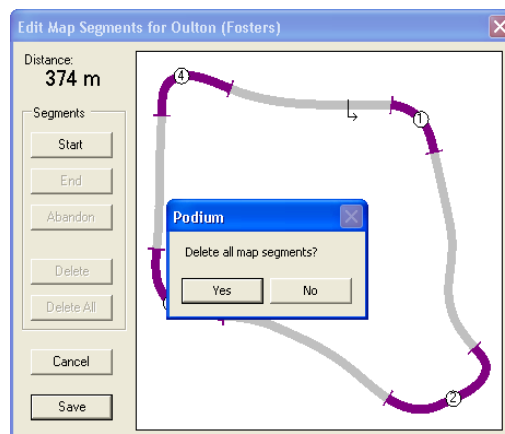

Figure 25 - Edit Map Segments Dialog (Delete All Segments)
3. Click **Delete All**. A message box is displayed which requests confirmation of the delete operation (see Figure 25).